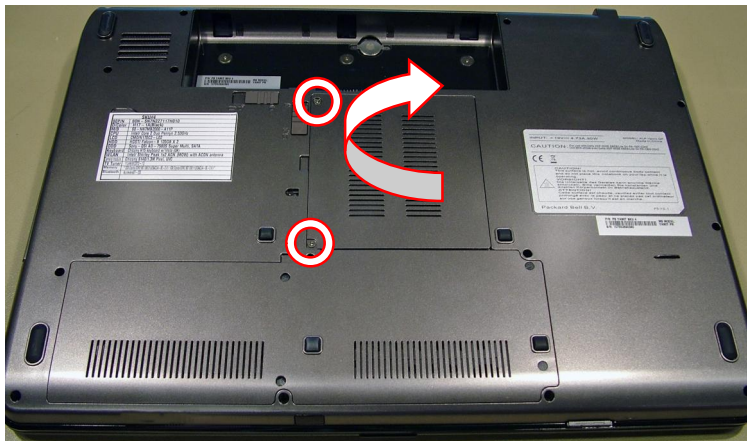

Fig. 4 Removing memory compartment cover.
2. Lift the cover upwards from the left. There are two tabs holding the cover in place on the right. Raise the cover until you can remove it from the casing (see Fig. 4 on page 5).
1. Remove the two screws securing the memory compartment cover (see Fig. 4 on page 5).